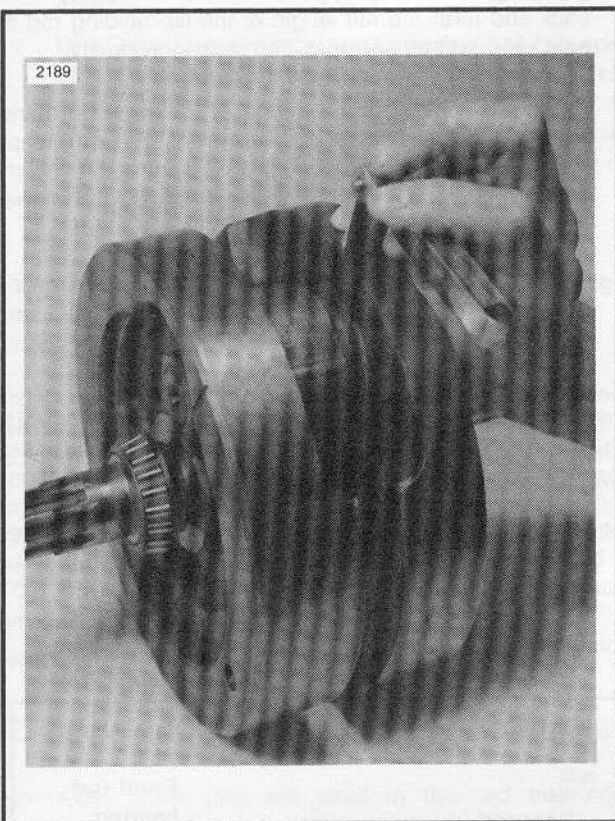

Figure 3-67. Check Connecting Rod Side Play
13. See Figure 3-67. Check connecting rod side play with thickness gauge. If it is greater than tolerance shown in engine SPECIFICATIONS, tighten crank pin nuts until within, but not exceeding torque limits. Insufficient play between rods and flywheel face is caused by one of the following conditions: